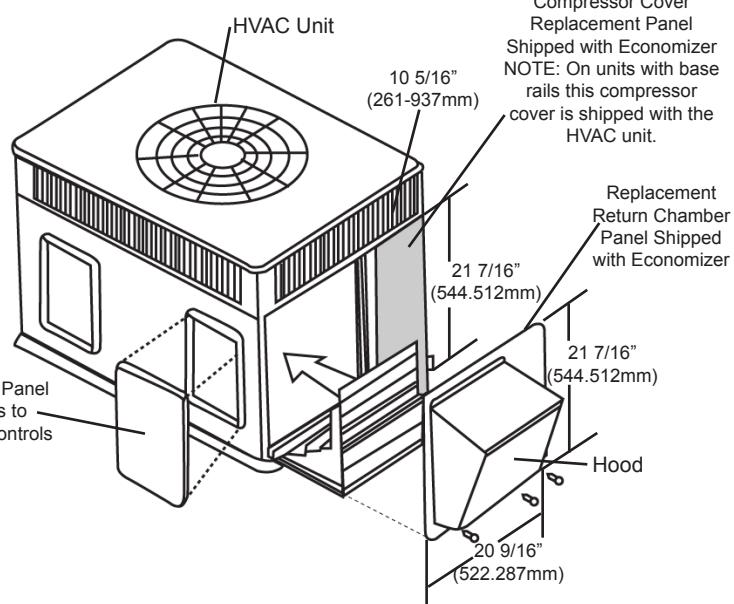

Fig. 6 - Economizer Installation
Filter access is through the horizontal return duct cover, see Fig. 6.
8. Install the economizer assembly into the return air chamber, making sure the economizer completely covers the bottom return air opening. See Fig. 6. Remove the red shipping tape holding the relief dampers closed.
9. Install the replacement return chamber panel over the economizer assembly and underneath the drip flange on the HVAC unit. Line up the bottom center hole on the panel with the hole in the bottom of the economizer and the mating hole in the base of the HVAC unit. Insert screw, which will hold all parts in place. Insert screws on bottom, left, and right of panel and on panel right side as well. See Fig. 6.
NOTE: The economizer control settings and the filters are accessible through the horizontal return opening on side of HVAC unit. See Fig. 6.
16. Install the compressor access panel provided with the economizer. Secure to HVAC unit per Figs. 6 and 7. Units with base rails will have compressor panel shipped with.